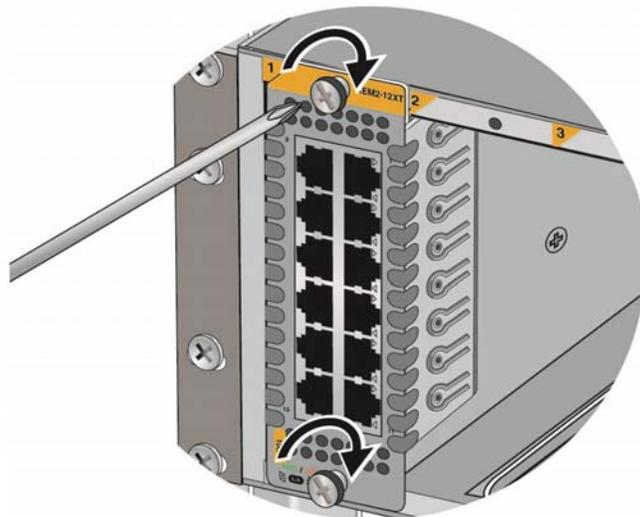

Figure 60. Tightening the Two Captive Screws on the Ethernet Line Card
7. Tighten the two captive screws on the card to secure it in the chassis. Refer to Figure 60.